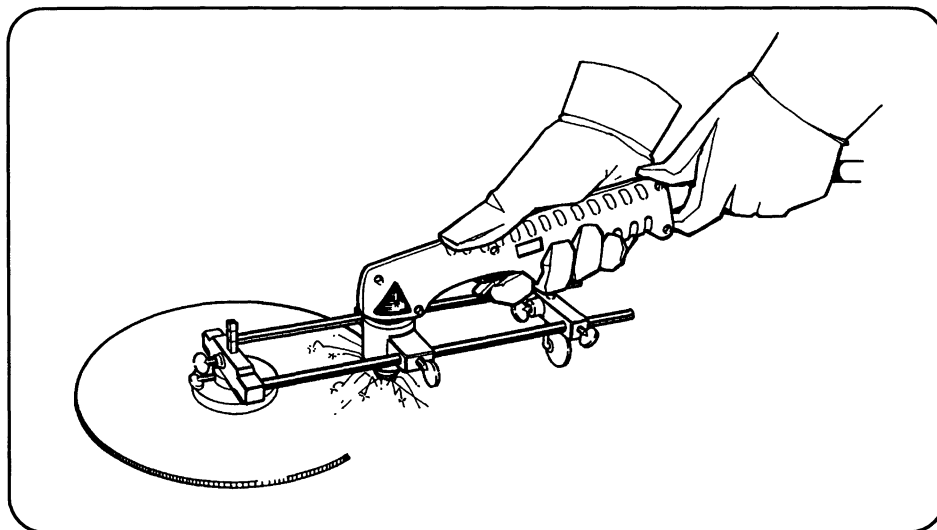

Figure 4-9 Cutting a Circle
- To cut perfect circles for spin fittings, use a template or a radius cutter attachment (Figure 4-9).